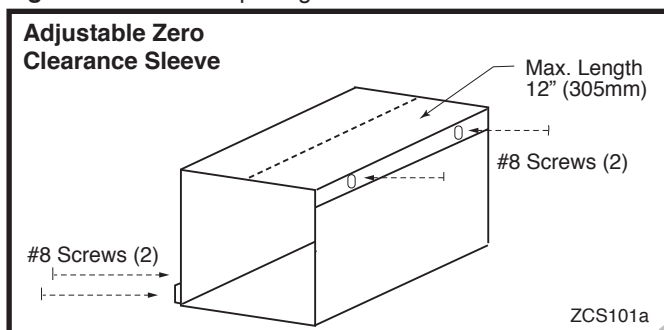
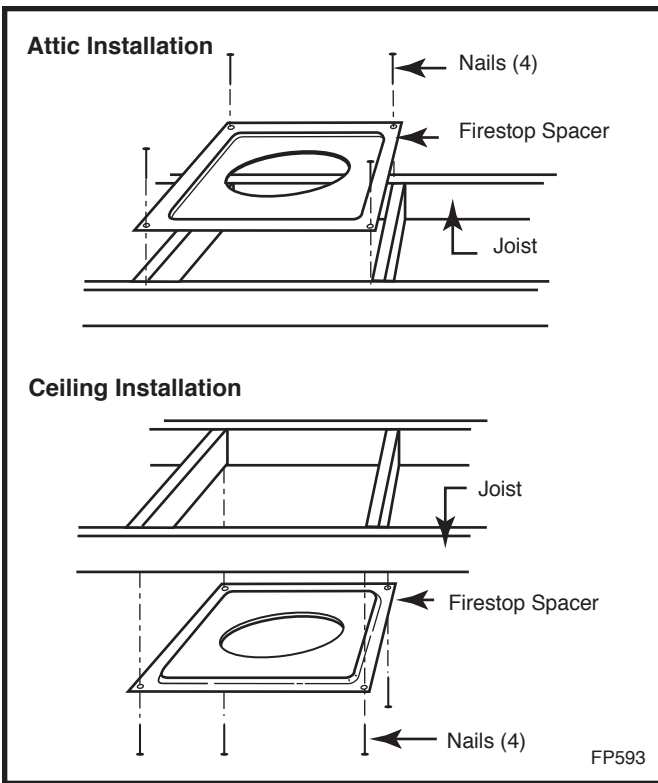

Fig. 22 Adjustable zero clearance sleeve.
Fig. 31 Installing firestop spacer.
Measure wall thickness and cut zero clearance sleeve parts to proper length (MAXIMUM 12"/305 mm). Assemble sleeve using #8 sheet metal screws (supplied). (Fig. 22) Install firestop assembly. (Fig. 31)
- SKCS8 must be used to support offsets. (Fig. 31)
6. Place firestop(s) SKFS2A or Attic Insulation Shield AIS-SK into position and secure. (Figs. 31, 32)